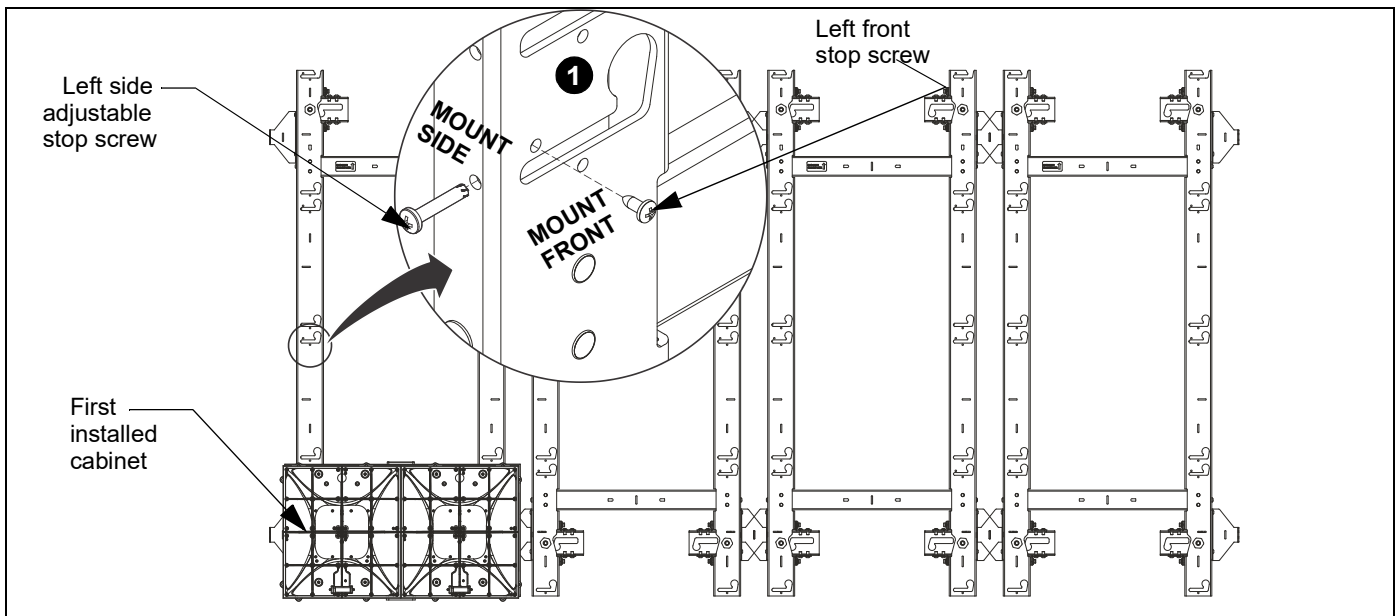

Figure 24
1. **BEFORE** installing the first cabinet, ensure that the left side adjustable stop screw **OR** the left front stop screw is installed. (See Figure 24) and also see the stop screws specific information in **Connecting Mounts Side to Side** section.